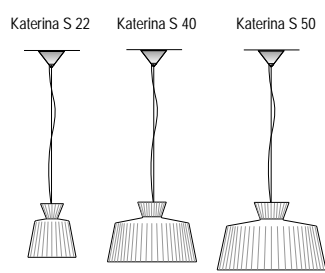

FIG. 1
1. FIG.1 Attach the metal canopy "A" to the J-box.